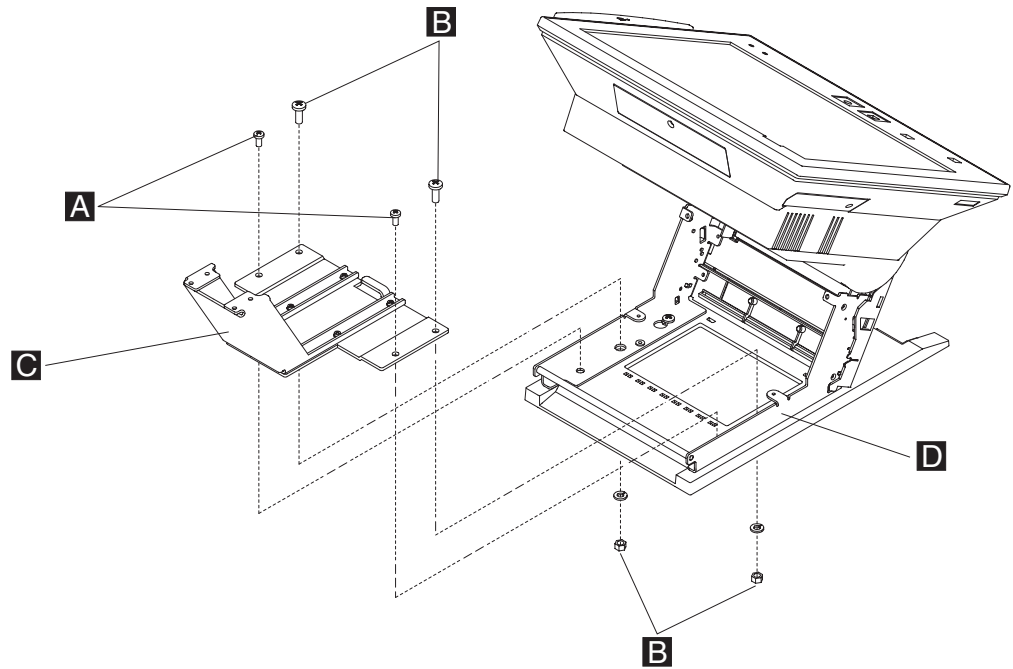

Figure 108. Removing the 4820 SurePoint Solution display to the base plate
6. Remove the 4820 base plate **C** from the SurePOS 500/600 base plate **D** by removing the two screws **B** (that secured with a washer and nut) and the two screws **A**, as show in Figure 108.